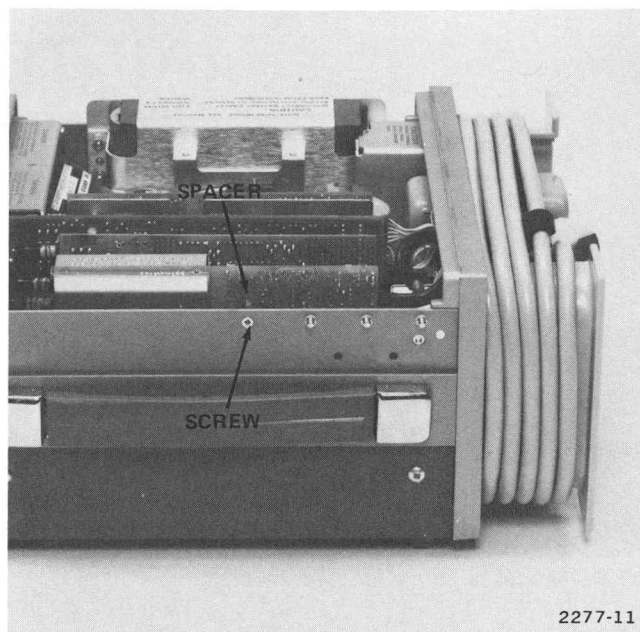

Fig. 4-1. ECG board securing.
e. CHECK—Screw and spacer securing ECG circuit board are tight. (See Figure 4-1.)